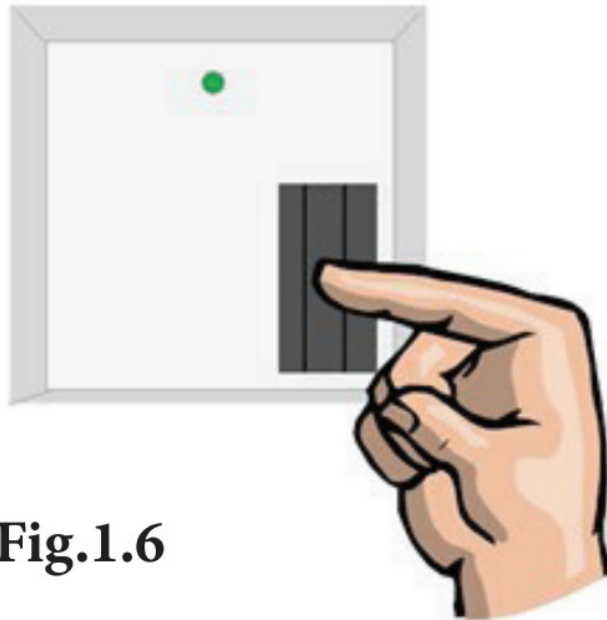

Fig.1.6
- Use the magnet to reset the sensor in the pool by holding the magnet on the face of the sensor for 2-4 seconds as shown in Fig1.6.